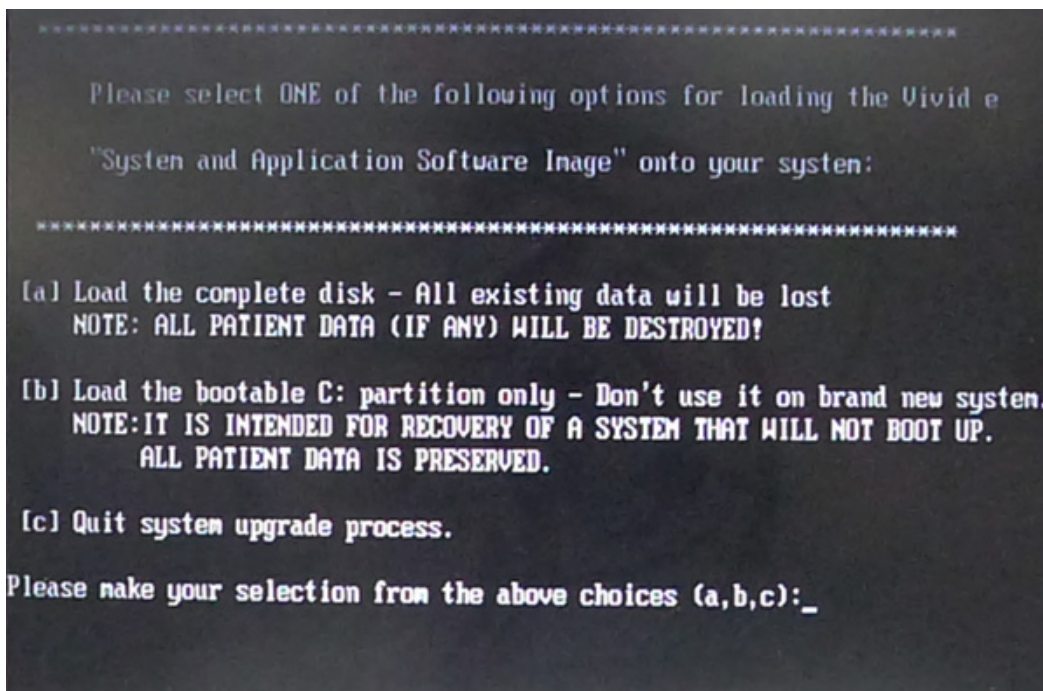

Figure 3-37 System Software load instruction
- 6.) The system software load instruction window displays. Select one of the options for loading the system. Select choice [a] to load the complete disk. Refer to Figure 3-37 on page 3-39